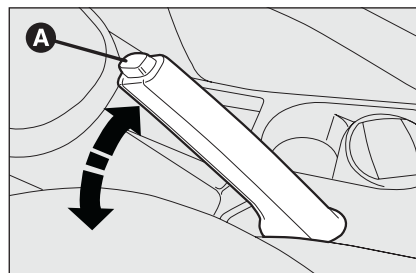

fig. 1
- slightly lift the handbrake and press release button **A-fig. 1**;